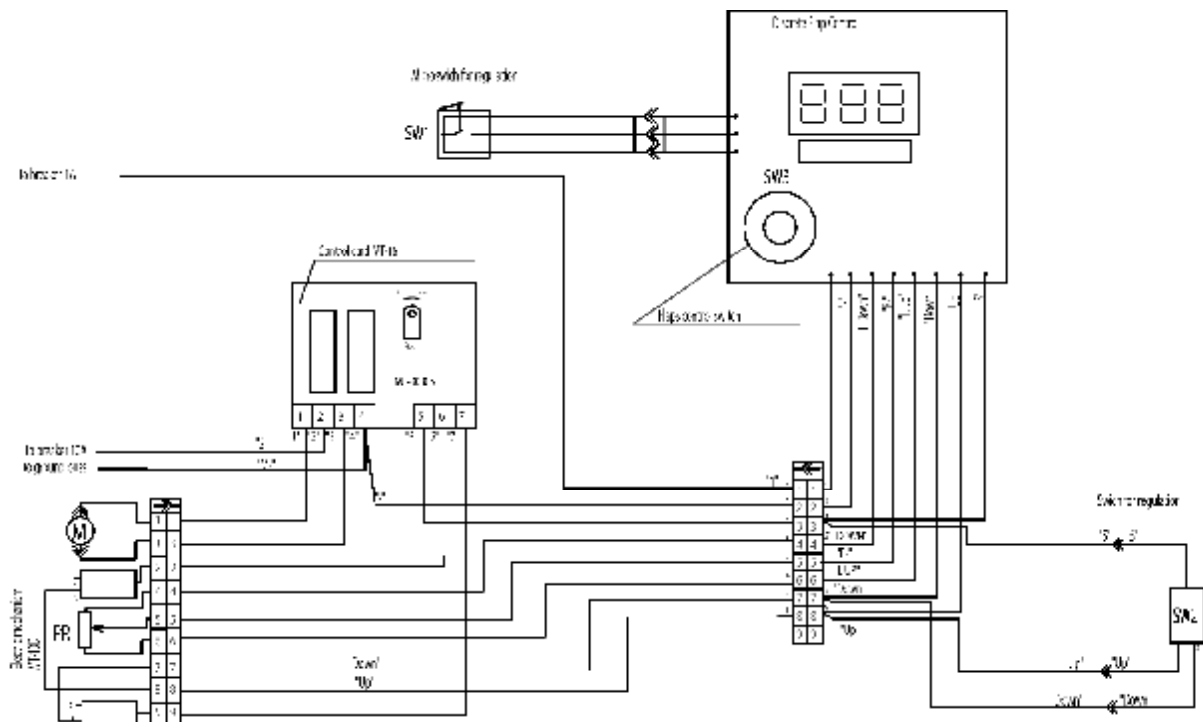

Fig. 11
1. Connect printed circuit board (PCB) connectors with corresponding headers of the flap actuator control (Control Card MT-10) wiring harness (Fig. 11).
7. If you cannot adjust (set) max angles of deflection (the rod of the flap actuator takes the end position), this problem could be solved by adjusting the length of the rod of flap control. The length of the rod can be adjusted only following the item 4.4.1.5.